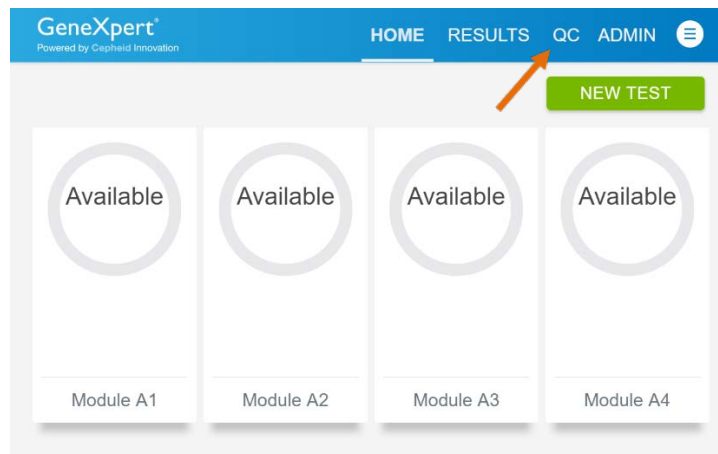

Figure 23. Home Screen
- If otherwise required by your institution's standard Quality Control (QC) procedures
1. Put on a new pair of gloves if performing a new test. Touch the **QC** button on the Home screen (see Figure 23).